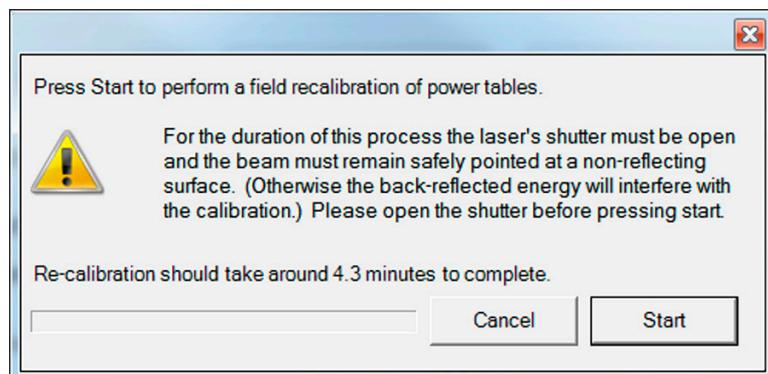

Figure 6-31. Field Calibration—Start Button
3. Click the **Start** button shown in Figure 6-31 to start recalibration.